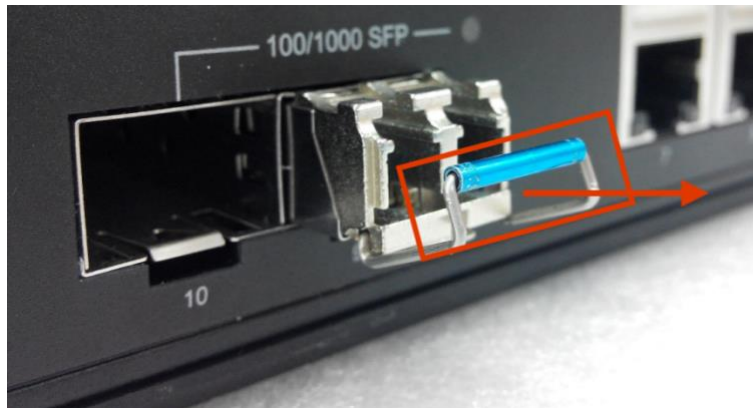

Figure 2.11: Pull Out from the SFP Module
Step 2 Push down the metal clasp and pull the transceiver out by the plastic part as shown below in Figure 2.11